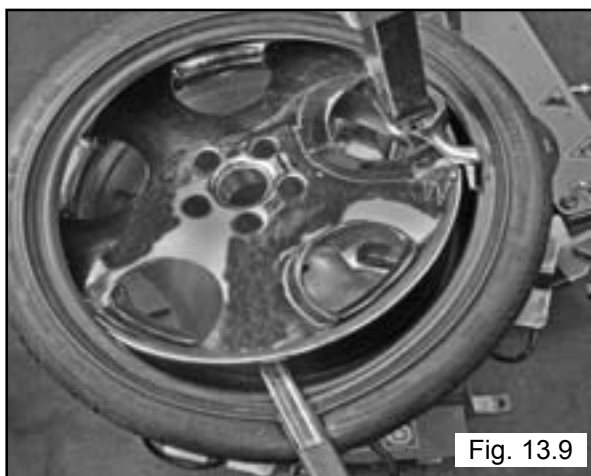

Fig. 13.9
8. With the Bead Lifting Tool, press down on the tire to hold the upper bead in the drop center. (See Fig. 13.9)